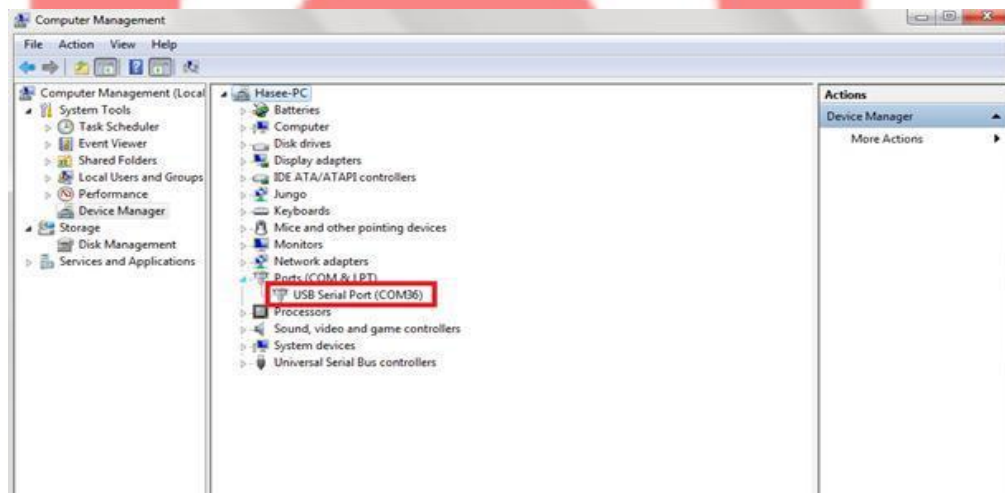

Figure 6: Device Manager
4. **Serial Communication port setting** - After connecting XBee to the PC, check whether the necessary communication (COM) port is assigned to XBee. This can be done by using the Device Manager on your PC as shown in Figure 6. If the COM port is not detected in the Device Manager, install driver for CP2102 USB to Serial converter. (Drivers can be downloaded from the following link)